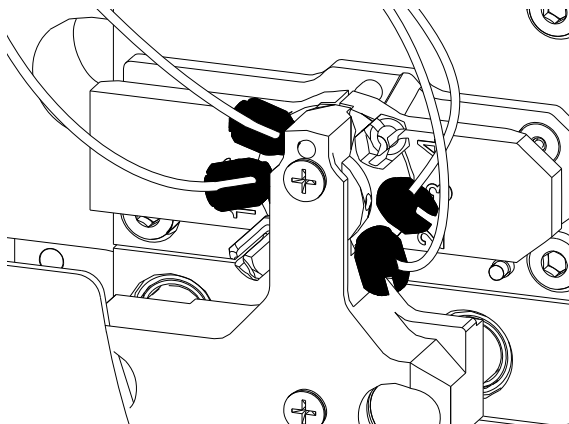

Figure 51 Slotted PEEK fitting
- 5 Loosen the slotted PEEK fitting using the Cube wrench and pull the capillary out. See Figure 51.